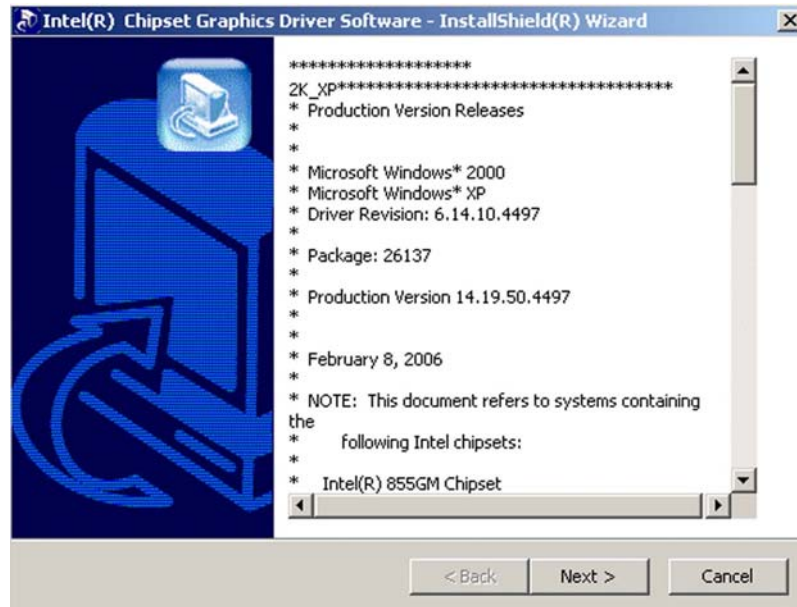

Figure 6-6: GMA Driver Readme File
- Step 2:** Once you double click the **win2k_xp141950.exe** icon, the Readme information file shown in **Figure 6-6** should appear.